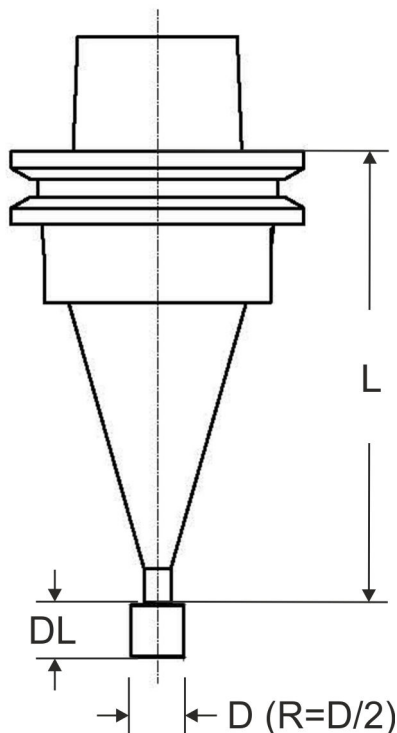

Fig. 63: Calibration pin dimensions
**3.** ➔ Compare the following values of the calibration tool (Fig. 63) from the enclosed inspection protocol with the values from the tool table, and adjust them if there are any deviations: